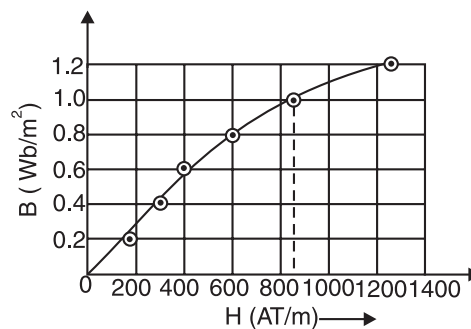

Fig. 8.27
**Solution.** Plot the  $B$ - $H$  curve from the given data as shown in Fig. 8.27.